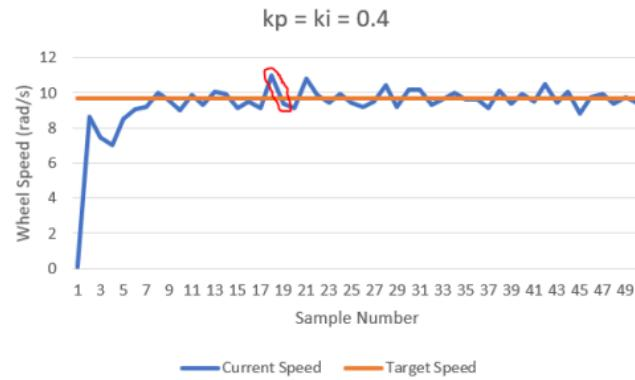

Figure 4
- a. Just as in Figure 4, locate two adjacent samples with a large delta in speed